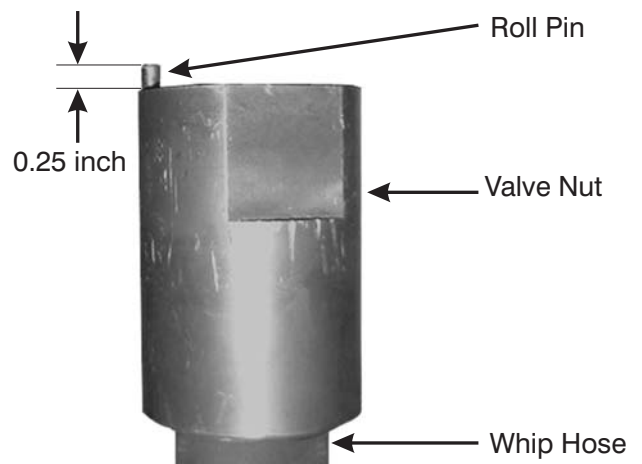

Figure 8-15. Valve Nut Assembly
- a. Use a 2-inch open-end wrench to hold the Hose Socket (14).
- b. Use a 2-inch open-end wrench to thread the Q.D. Socket (17) from the Hose Socket (14).
5. Refer to Figure 8-15. Inspect the Roll Pin (11) for damage and correct height. The Roll Pin should extend 1/4-inch from the Valve Nut (12).